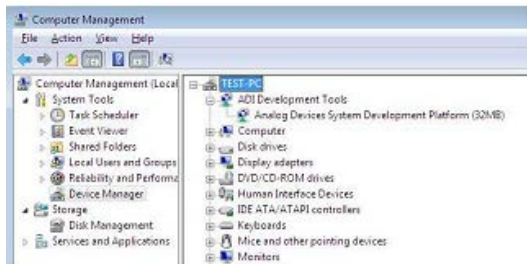

Figure 12. Checking if the SDP Board is Connected to the PC Correctly
- c. The **Computer Management** window appears. Click **Device Manager** from the **System Tools** list (see Figure 12).